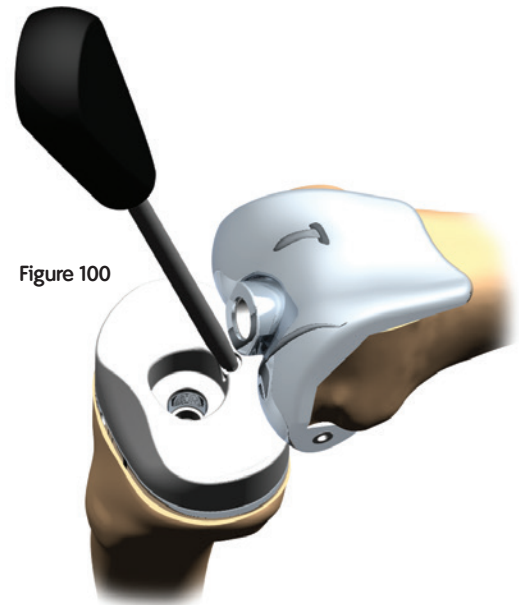
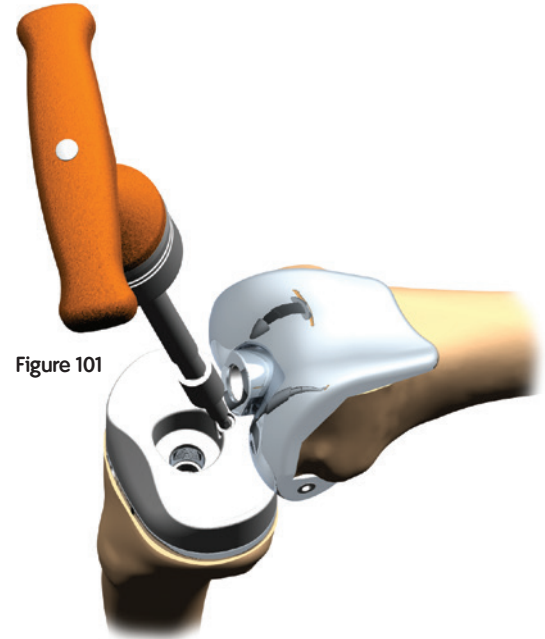

Figure 100
Figure 101
9. Use the 3.5mm Hex Driver to secure the lock screw into the Tibial Base (Figure 100) and then torque with appropriate 85 in-lb Torque Wrench (Figure 101).